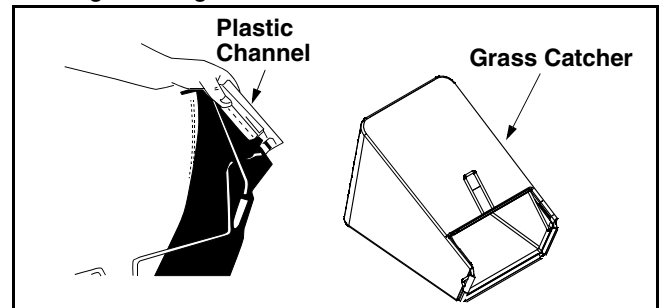

Figure 7
- All the plastic channels attach from the outside of bag. See Figure 7 .